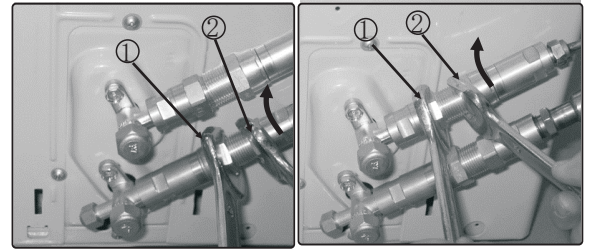

Fig.6.4
4. Now tighten the bottom screw connector first and then the top screw connector using the open-ended spanner. Hold the points marked "①" using an open-ended spanner and turn the nuts only at the points marked "②" using an open-ended spanner (Select the appropriate spanner according to the dimensions of the connector), see Fig.6.4